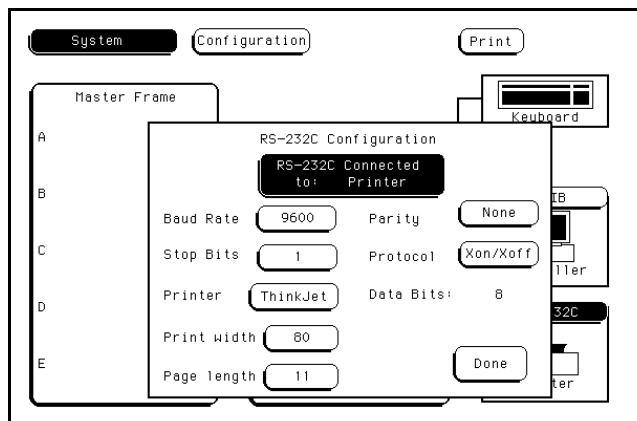

Figure 2-9. RS-232C Configuration Menu
2. Touch the **RS-232C** field in the lower right corner of the screen to obtain the RS-232C configuration menu. See figure 2-9.